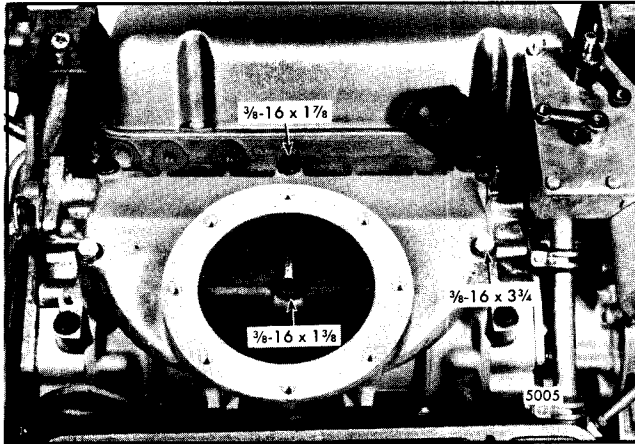

Fig. 4 - Location of Air Shutdown Housing Mounting Bolts (6V-53 Engines)
1. Place the blower screen and gasket assembly in position with the screen side of the assembly toward 2. Refer to Fig. 4 and mount the air inlet housing on the blower and secure it with bolts, washers and lock washers. Tighten the bolts to 16-20 lb-ft (22-27 Nm) torque.